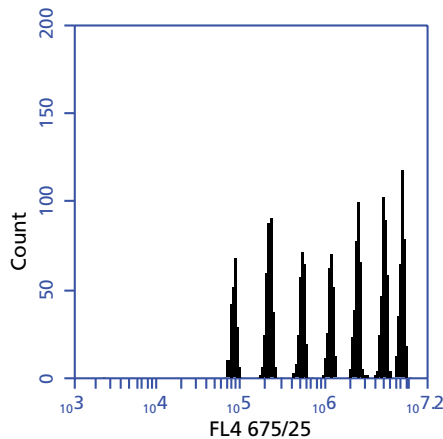

Figure 1. The seven bead populations in a BD CBA Human Th1/Th2/Th17 kit.
5. Once acquisition is complete, confirm that the thresholds exclude debris and do not exclude bead events. The default values in the templates are FSC-H and SSC-H, both at 500,000. Confirm that the expected number of bead peaks is visible on the FL4 histogram (Figure 1).